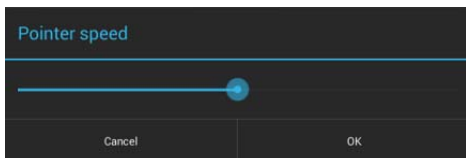

FIG. 77 Pointer Speed window
1. Under MOUSE/TRACKPAD, press **Pointer Speed** to open the Pointer Speed window (FIG. 77):